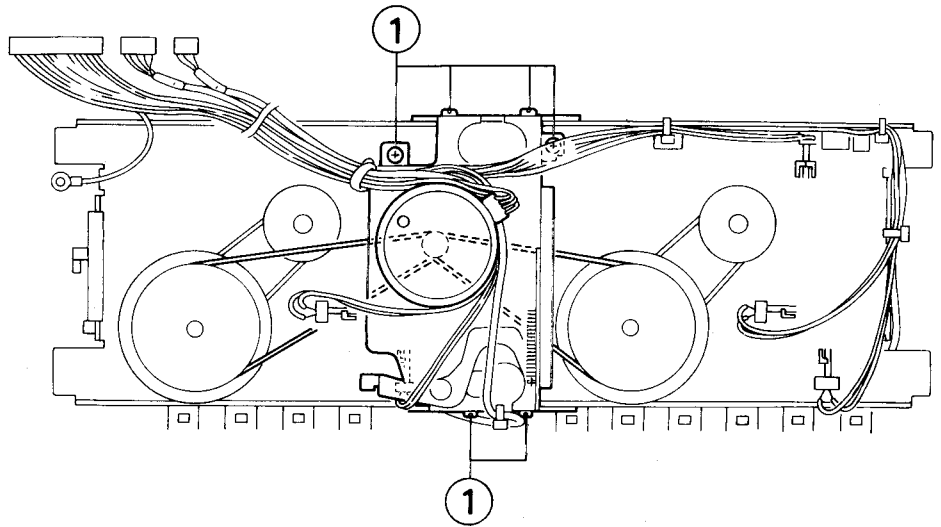
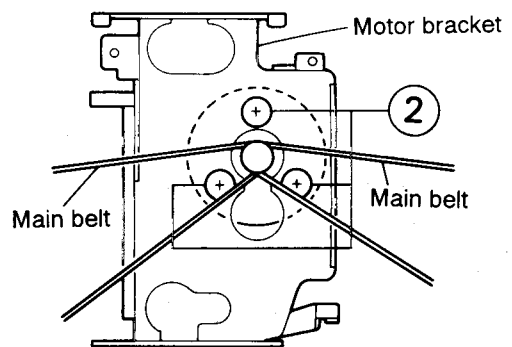

Fig. 2-21
Fig. 2-22
■ **Capstan motor (Fig. 2-21, Fig. 2-22)**
5. Remove six screws ① retaining the motor bracket from the back of the cassette mechanism.
7. Remove six screws ② retaining the Capstan motor from the back of the cassette mechanism.